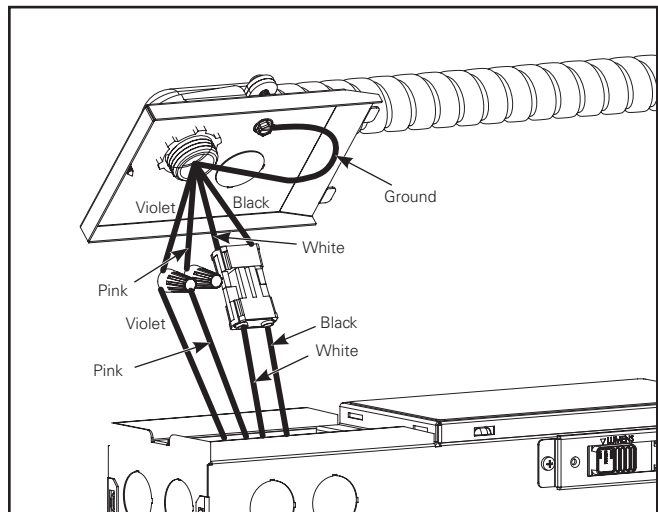

Figure 3.
8. Bring supply wires into the junction box using a conduit fitting through the top access plate. Connect the line (black) and neutral (white) to the supplied quick disconnect. Attach ground wire to the ground screw on the access plate. (Figure 3.)